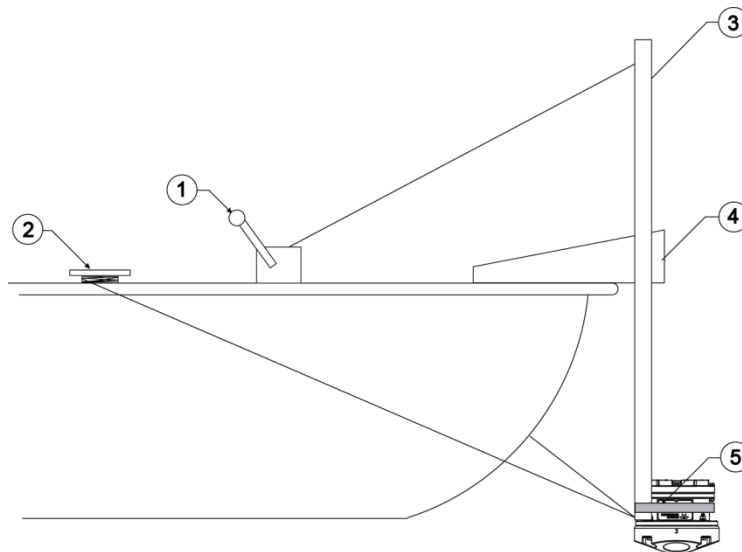

Figure 33. Mounting an ADCP to a Platform
- Mount to the platform (see Figure 33).